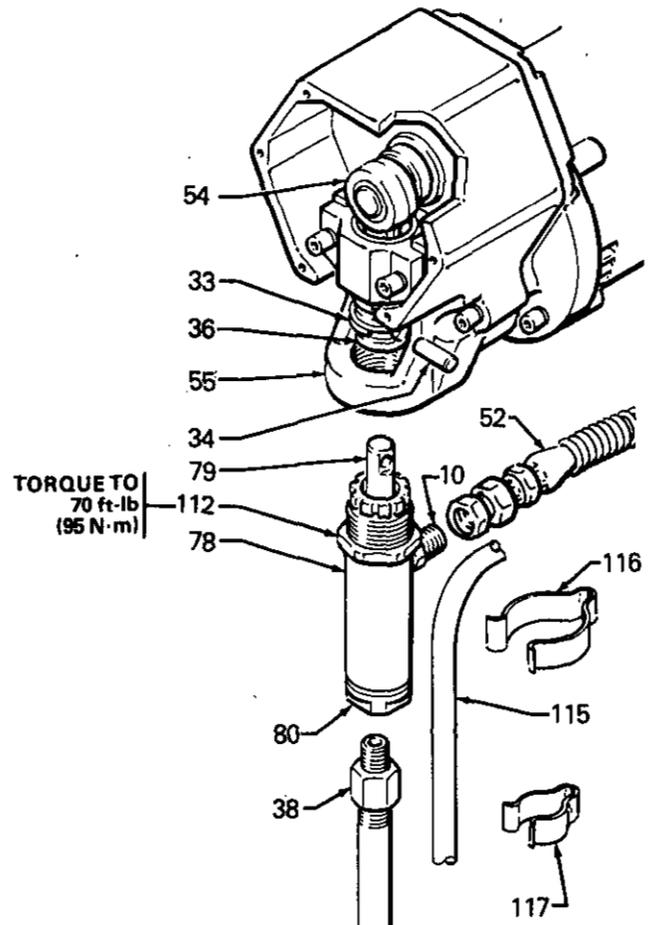
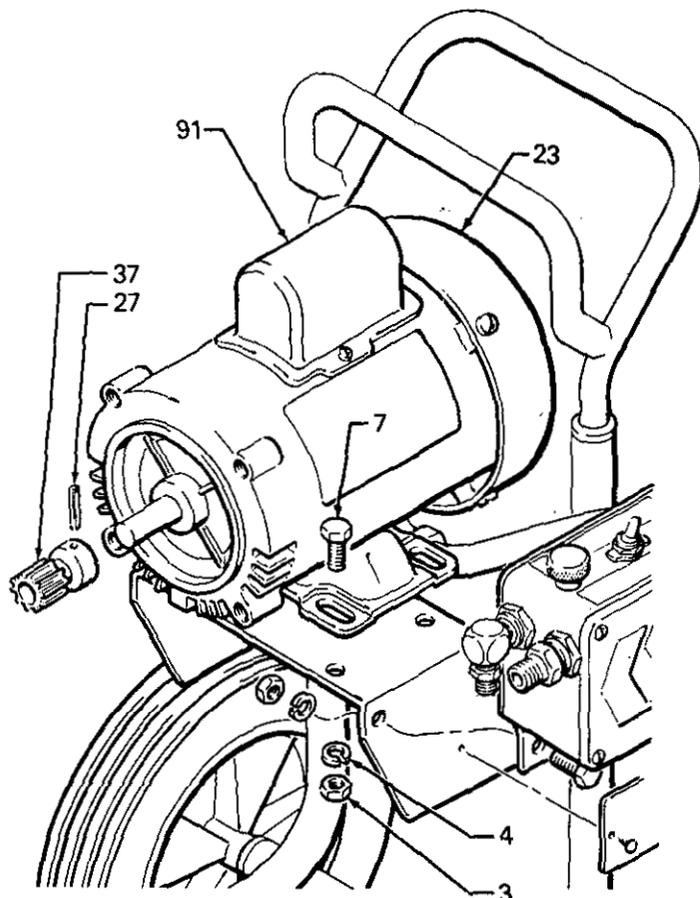
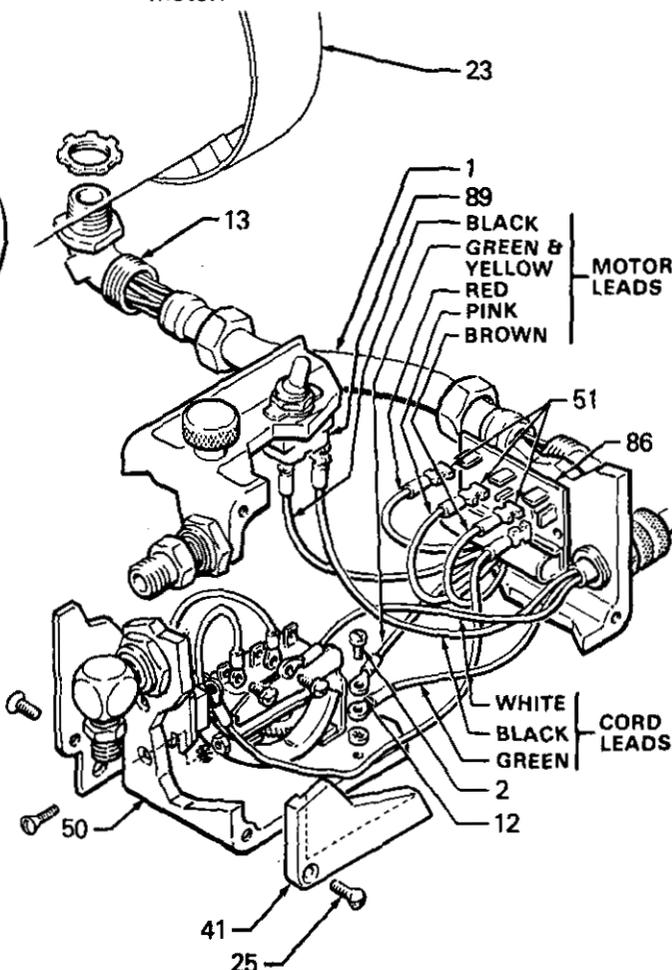

Fig 14
Fig 20
Fig 21
Unscrew adapter (38) from pump. See Fig 14. Use a wrench on the pump intake valve (80) to keep it from loosening.
Unscrew the hose (52) from male connector (10). See Fig 14.
Remove two screws and the cover of capacitor (91). See Fig 20. Remove flag connectors from old capacitor. Connect flag connectors of new capacitor and replace cover.
Disconnect hose (52) from connector (10). See Fig 14. Remove drive assembly as described above. You can leave pump, connecting rod and bearing assembled to drive assembly. Drive out pin (27) and remove gear (37). See Fig 20. Remove screws (25) and cover (41) from pressure control (50). See Fig 21. Disconnect red, pink and brown motor leads from circuit board (86). Disconnect green and yellow motor lead from grounding screw (2) and black motor lead from toggle switch (89).
Unscrew nuts on both ends of conduit (1) from connectors. Remove screws (7), nuts (3) and lockwashers (4). See Fig 20. Remove motor from frame while carefully guiding wires through connector in control box. Remove conduit (1) from wires.
NOTE: Terminals (12 and 51) are not included with a new motor (23). Order these separately and crimp to motor leads as shown in Fig 21. Circuit board (86) is included with a new motor.